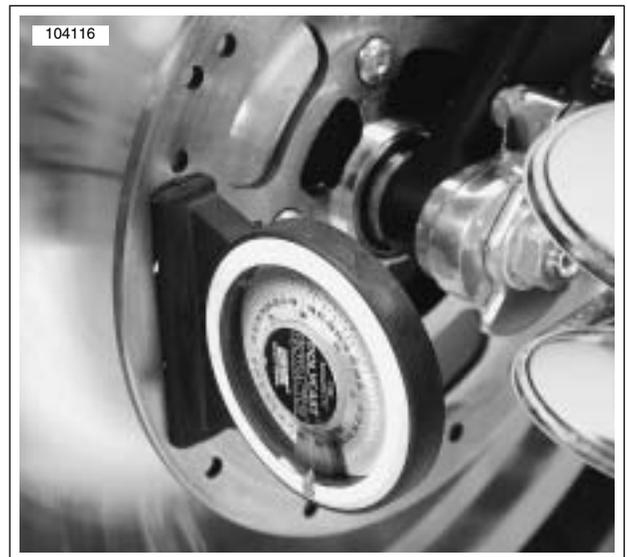

Figure 2-89. Measuring Vertical Alignment
6. See Figure 2-89. Measure vertical alignment by placing an inclinometer vertically on front and rear brake discs. Front and rear lean angles should be equal within +/- 1/2 degree.